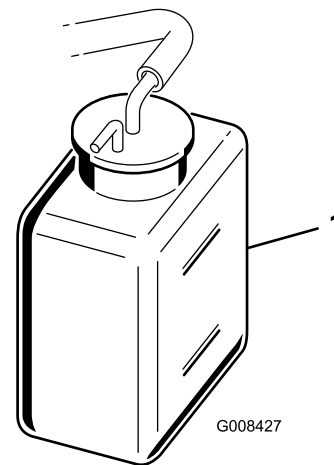

Figure 31
2. Check the coolant level (Figure 31).